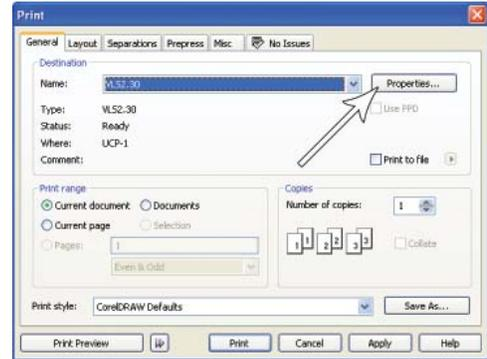

Figure 4
2. When you are ready to print the job, click FILE and then click PRINT. Make sure that your laser system appears in the DESTINATION NAME dropdown list, and then click PROPERTIES (Figure 4) to display the VLS system printer driver settings (Figure 5).
7. Now click on PRINT in the Print dialog window (Figure 4).